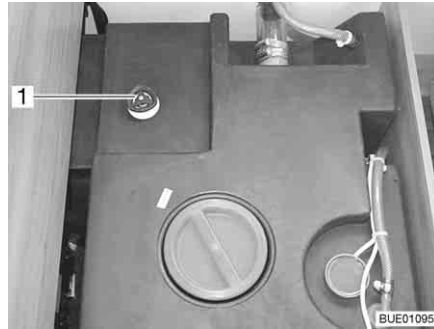

Fig. 201 Water tank with handle
- Turn the handle (Fig. 201,1) on the water tank in a clockwise direction as far as it will go.
- Turn the handle (Fig. 201,1) on the water tank in an anticlockwise direction as far as it will go. Excess water will drain away leaving 60 litres in the tank.